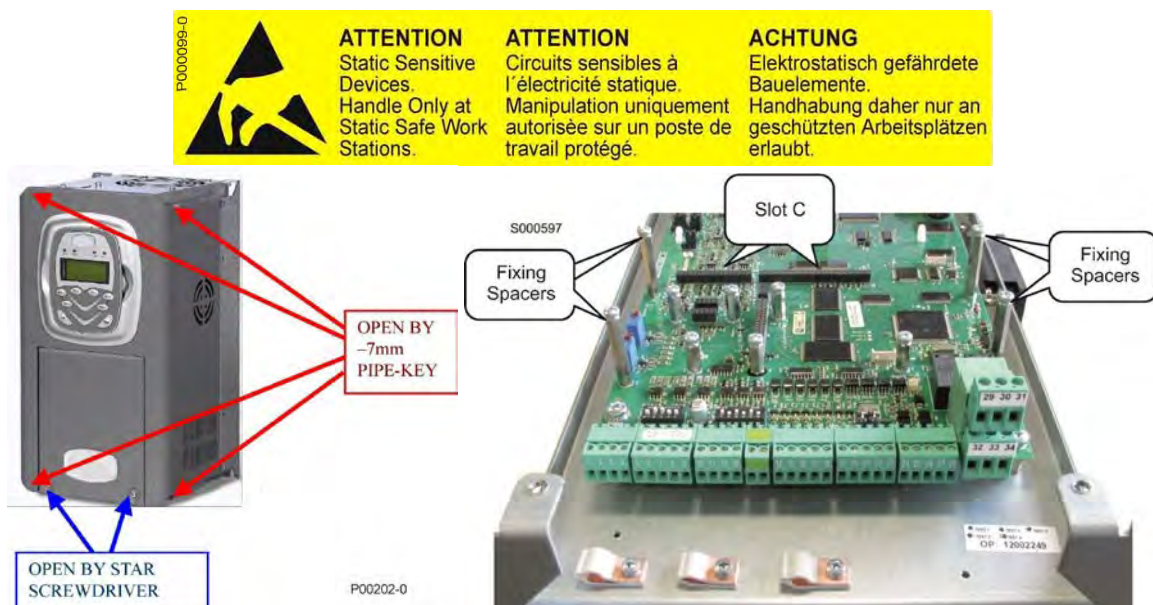

Figure 206: Removing the inverter cover; location of slot C
2. Remove the whole inverter covering by loosening the four hexagonal screws located on the top side and bottom side of the inverter to reach the fixing spacers and the signal connector (Figure 206 – Slot C.)